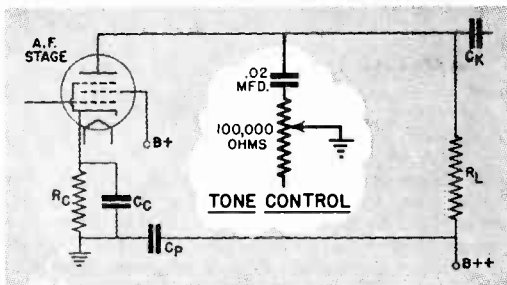

Fig. 4. Example of a continuously variable tone control consisting only of a condenser and a rheostat.
**Continuously Variable Tone Control.** Some people prefer a continuously variable type of tone control, in order to obtain exactly the desired tone correction at any loudness level. This is provided by the combination condenser-rheostat tone control circuit shown in Fig. 4.